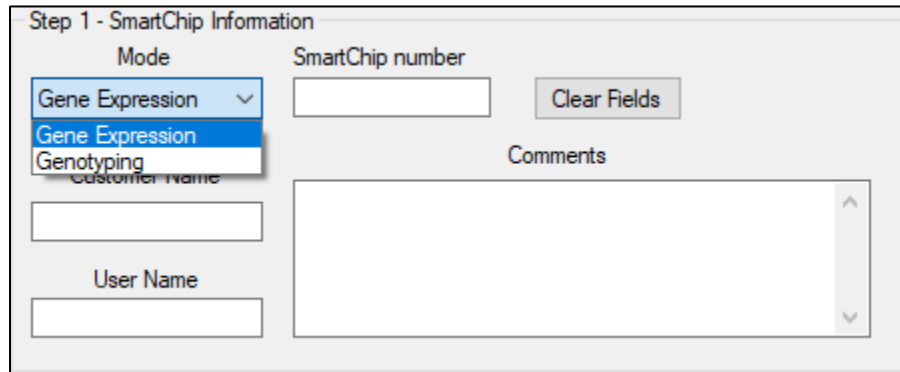
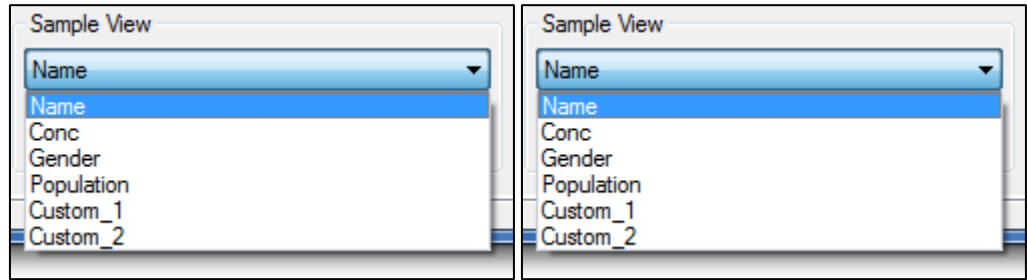

Figure 26. Mode list.
Figure 32. Sample View list.
- a. Select the type of experiment from the "Mode" dropdown menu (Figure 26).
- i. Select the sample attribute from the "Sample View" list (Figure 32). The attributes listed depend on the selection made in the "Mode" dropdown in the *Setup* tab (Figure 26).